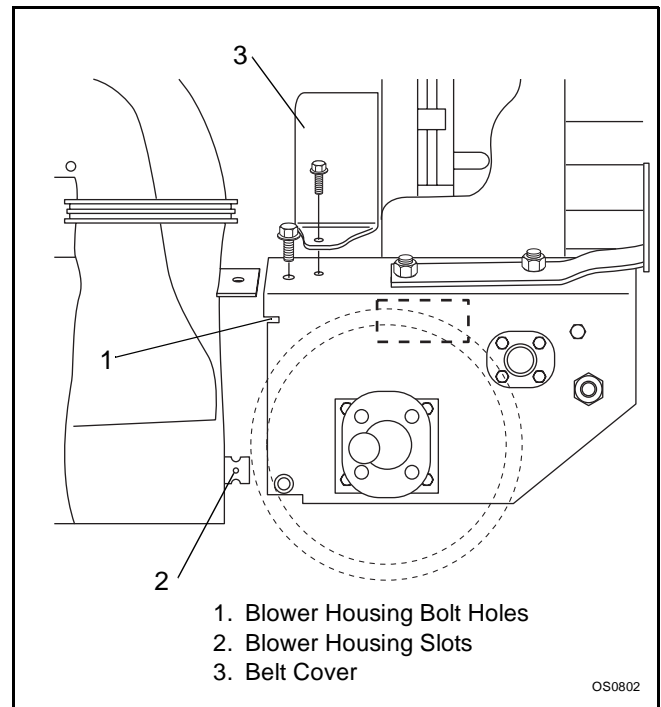

Figure 3
1. Remove two screws securing belt cover to unit and remove belt cover (Figure 3).